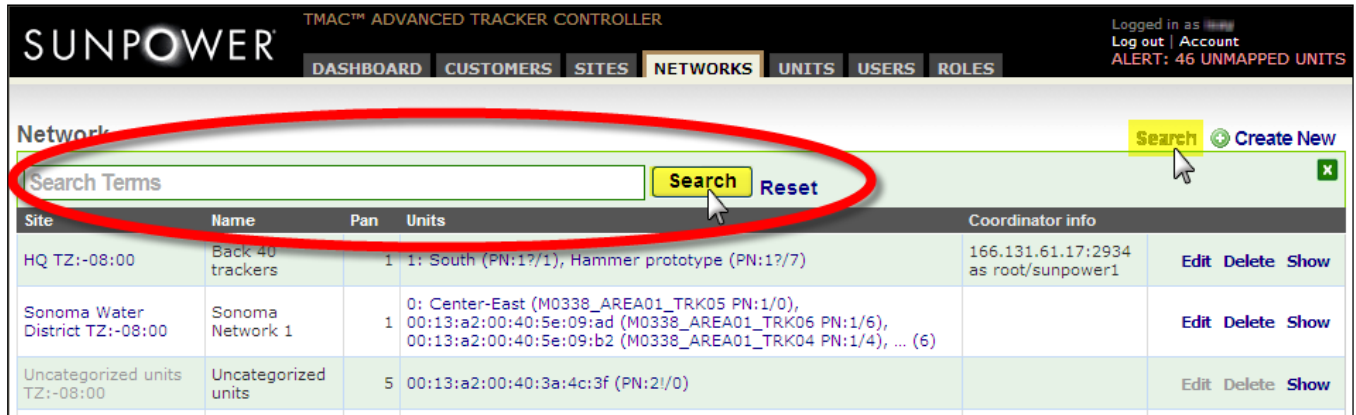

Fig. B18
- Look for the site and network names under the **Site** and **Name** columns, respectively. Use the scroll bar and page selector at the bottom of the page as necessary. Alternately, you can filter the list by using the search function. Click **Search** and enter any part of the site or network name (for example, *Sonoma*) in the **Search Terms** field and then click *Search* (Fig. B18).